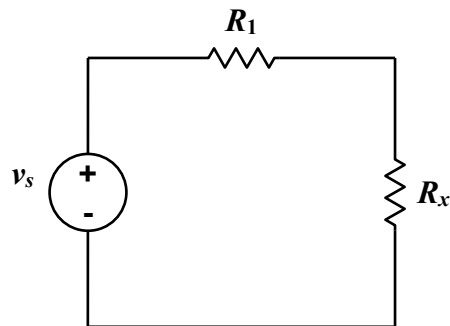

Figure 1.6 Known resistor R_1 in series with “unknown” resistor R_x .
21. Build the circuit shown in **Figure 1.6**. For the “unknown,” use $R_x = 470 \Omega$.
23. Measure the voltage across known resistor R_1 , and then across the “unknown” resistor $R_x = 470 \Omega$ (**Figure 1.6**). Record the values in **Table 1-4**.